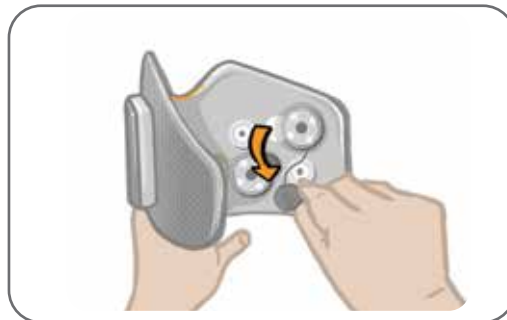

Figure 11-9: Removing the Used Electrode Bases
3. Remove the used electrode bases from the cuff. See Figure 11-9.